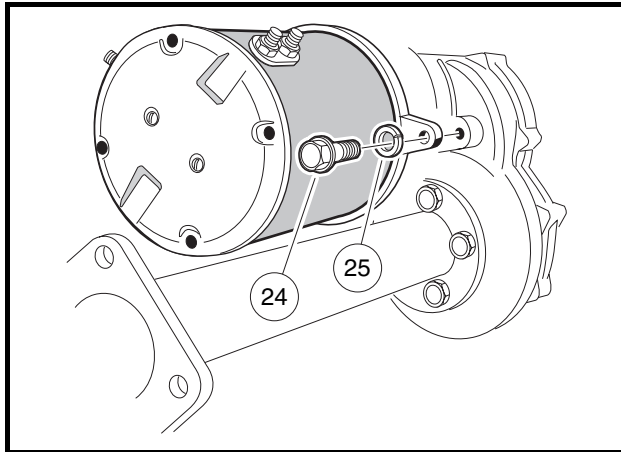

Figure 15-17 Motor Installation
- 4.4. Tighten the bolt (24) inserted through the tab to 155 in-lb (17.5 N·m) (**Figure 15-17, Page 15-13**).